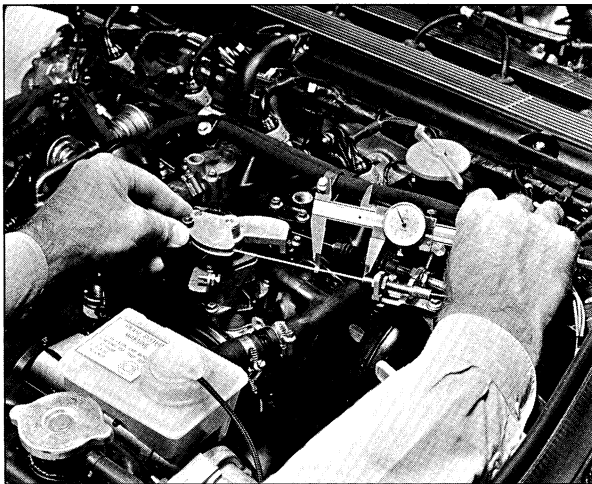

FIG 6
**Verify the cable lug position** Hold the throttle bellcrank at the kickdown position. The kickdown detent can be felt as the bellcrank is moved. Measure the distance from the cable lug to the outer cable (FIG 6). It should be 39–40 mm. If the measurement is outside this range, the lug has moved and requires cable replacement.